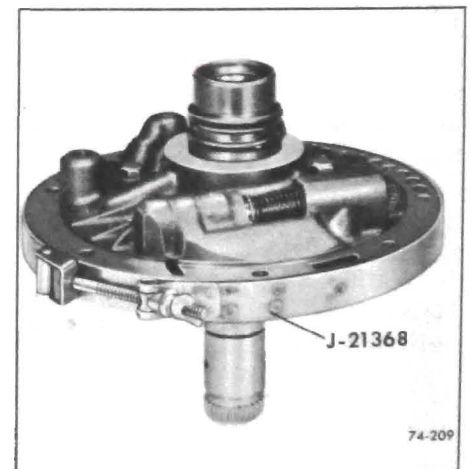

Figure 74-197
9. Install pump cover to pump body. Install retaining bolts finger tight. Place Tool J-21368 around pump to obtain proper alignment. See Figure 74-197. Tighten bolts in random sequence to 16-24 lb.ft. torque.